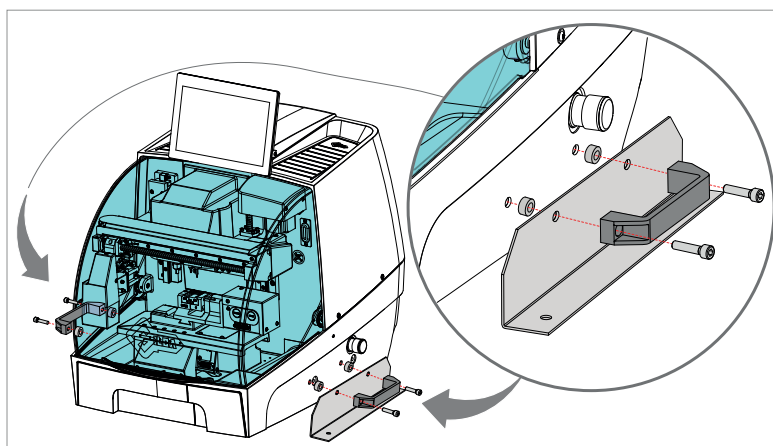

Fig. 17
- 1) After positioning, release the machine from the brackets by removing screws, handles and spacers (Fig. 17).